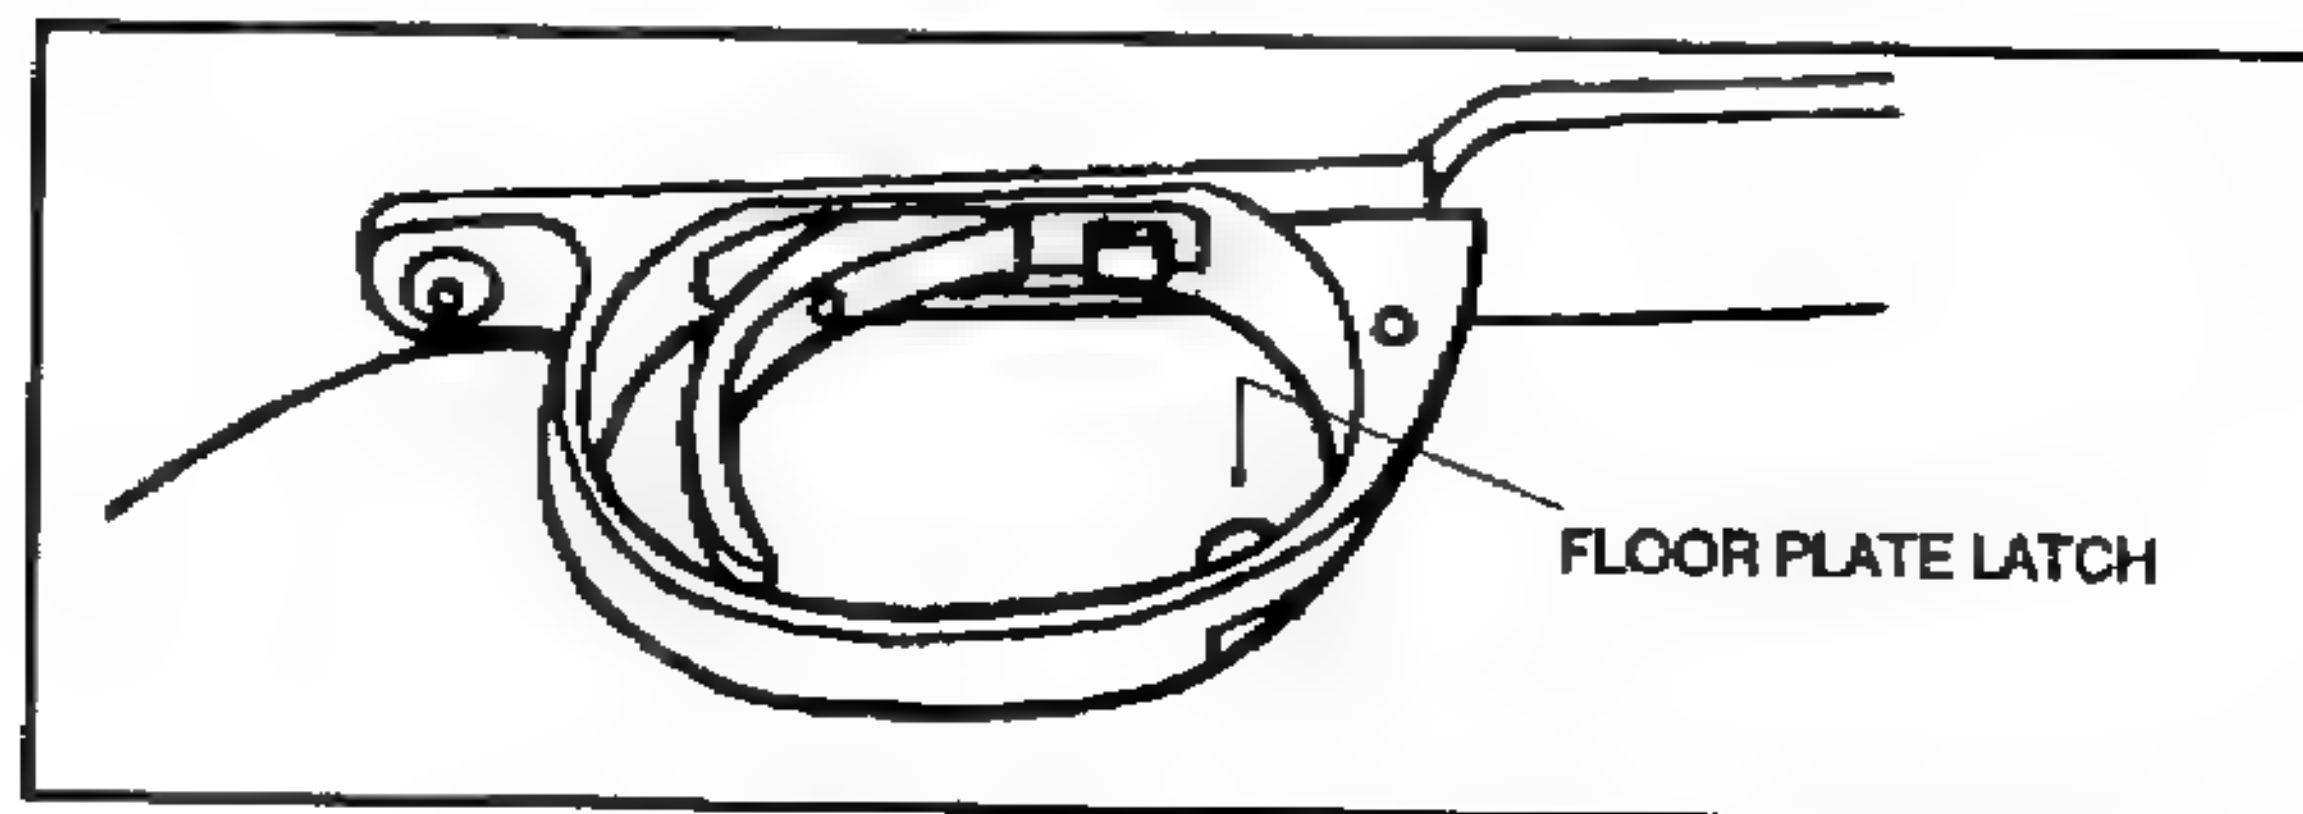

Figure 2-17. Floor plate latch.
- (1) Point the muzzle in a safe direction.
- (2) Ensure the safety is in the "S" position.
- (3) Raise the bolt handle.
- (4) Put one hand over the top ejection port. Slowly pull the bolt handle back with the other hand to remove the cartridge from the chamber.
- (5) Remove the cartridge from the rifle.
- (6) Put a hand under the floor plate.
- (7) Push the floor plate latch to release the floor plate (Figure 2-17, page 2-18). The magazine spring and follower will be released from the magazine.
- (8) Remove the released cartridges.
- (9) Push in the magazine follower, then close the floor plate.